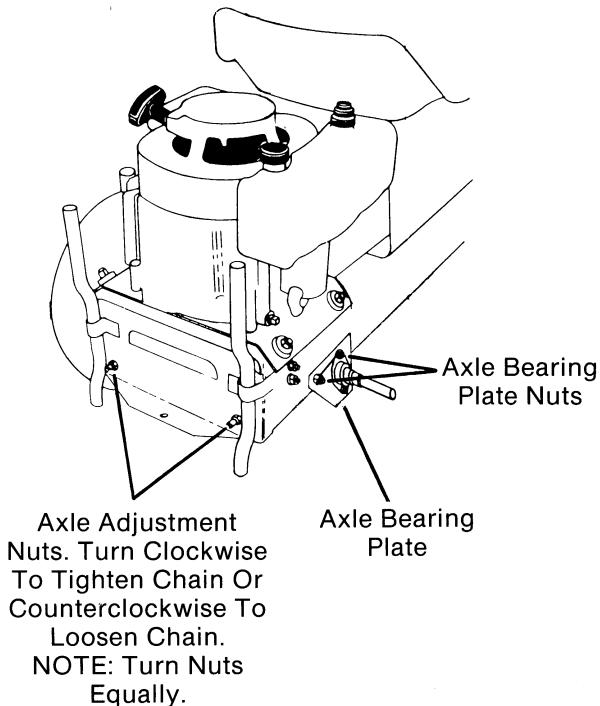

FIG. 23
- B. Loosen two nuts holding axle bearing plates to main frame, on both sides of rear engine rider. (Fig. 23)
- C. Turn axle adjustment nuts clockwise to tighten chain or counterclockwise to loosen chain. (Fig. 23)